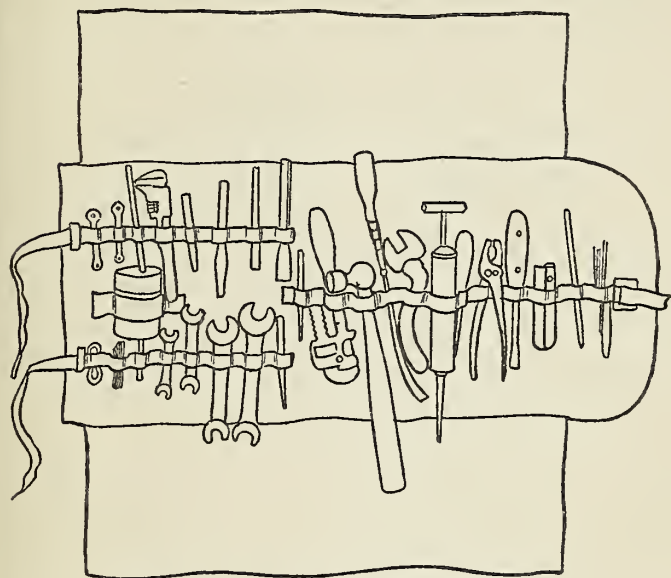

FIG. 68.—The kit of tools you need.
The Things You Ought to Carry.—*The Tools You Should Have.*—The following kit of tools, see Fig. 68, will be found useful in making road repairs: (1) a machinist's hammer; (2) large and small screw drivers; (3) a 6-inch and a 12-inch monkey wrench; (4) a cold chisel; (5) a couple of flat mill files; (6) a key puller; (7) a pair of 6-inch combination pliers; (8) a pair of long nose pliers; (9) several open end wrenches; (10) one tire repair outfit; (11) a wrench for spark plugs; (12) a wrench for hub caps; (13) a wrench for valve caps, and (14) an offset screw driver.